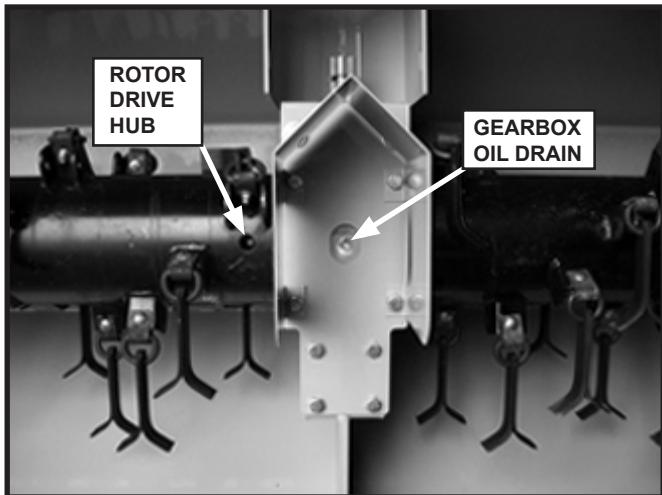

Figure 34. Rotor Drive Hub Lubrication Points & Gearbox Oil Drain Location
1. Lubricate rotor drive hubs next to the couplers on underside of unit (2 locations). See Figure 34.
1. Change gearbox oil. Refill with SAE 85W90 gear oil. See Figure 34.